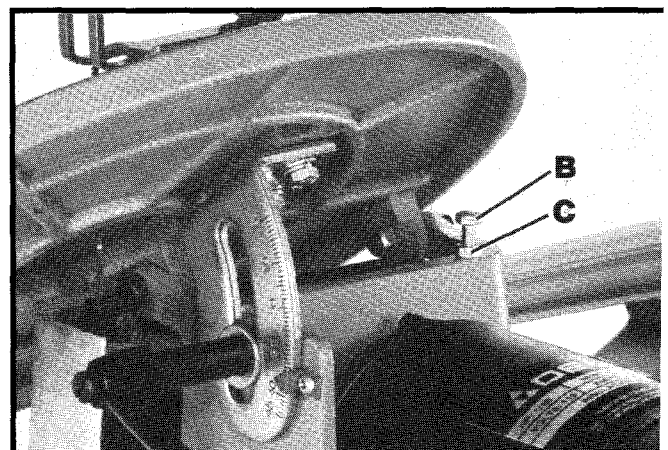

Fig. 34
3. If the table is not at 90 degrees to the blade, adjust the table accordingly making certain screw (B) Fig. 34, contacts bottom of table surface when table is 90 degrees to the blade. Screw (B) can be adjusted by loosening nut (C), thread screw (B) in or out the desired distance and tighten nut (C).